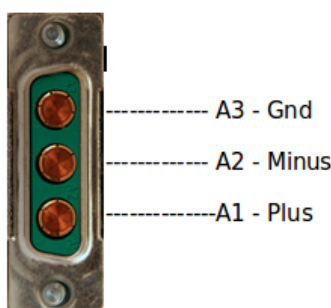

Figure 4.4: Soldering the Female 3-PIN D-sub(15) Connector to the Power Cable
The VB300-DC unit is equipped with two –48V DC / 50W power inlet connectors. The power plug is a male 3-PIN D-sub(15) connector. Matching female plugs are supplied with the VB300-DC unit. This plug should be soldered to the power cable in accordance with the drawing in figure 4.4.